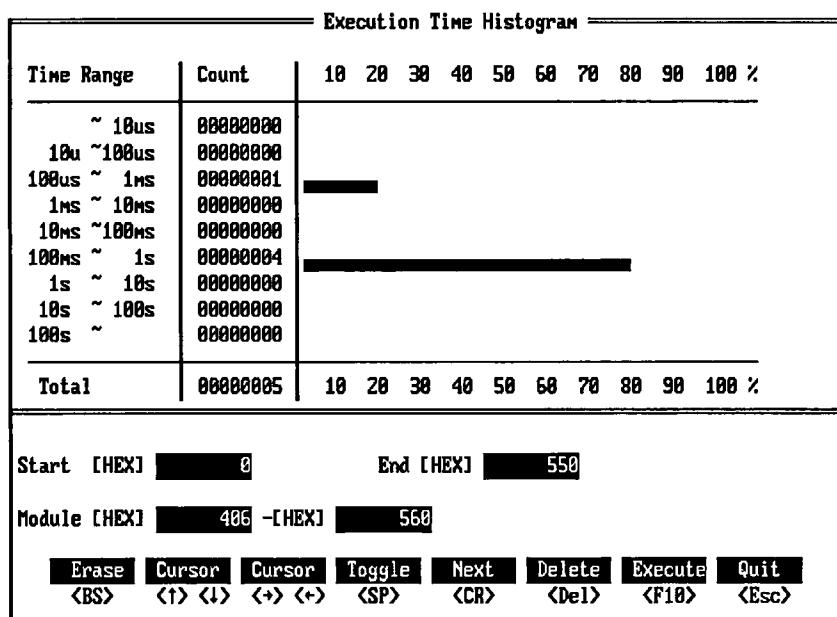

Figure 5-69 Execution Time Histogram
5. Since the execution time for Module C depends on the branch conditions caused by interrupts, it is advisable to examine the time distribution pattern of program execution before modifying Module C. Therefore, Execution Time Analysis (Section 5.2.8.3) was performed with graphic result shown in Figure 5-69 and summarized below:
The Execution Time Histogram (Figure 5-69) has two sections, the "entry" (bottom) section and the "bar graph" (top) section. All data required for the time analysis are input in the entry fields provided in the "entry" section, where-